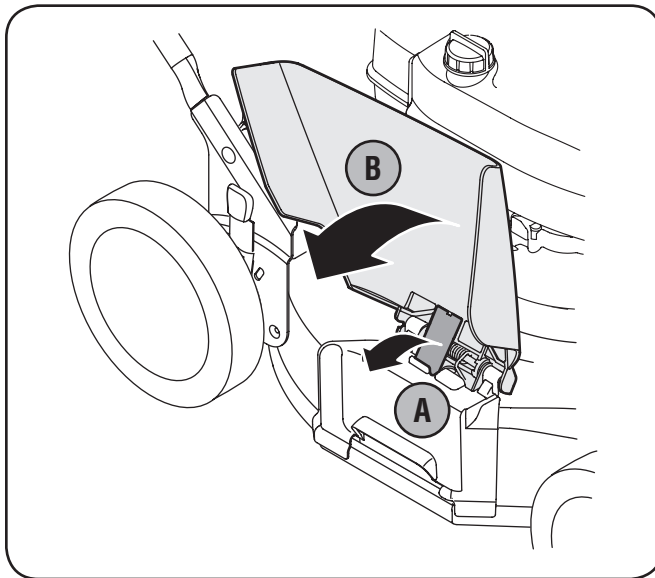

Figure 3-1
- a. Push chute deflector up towards engine. Holding deflector in this position, remove the retainer and discard. See Fig. 3-1.